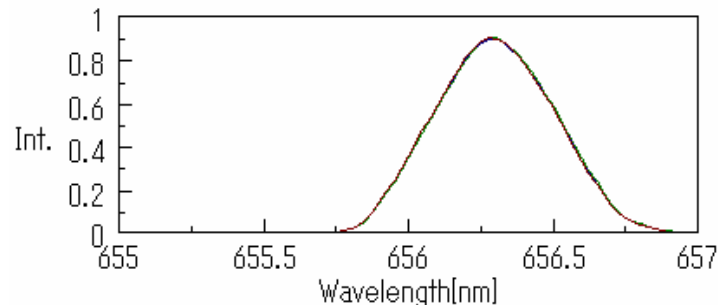

Fig. 4.4 D₂ lamp spectra with an emission line at 656.1 nm
- (3) With the sample chamber empty, measure the spectrum of the D₂ lamp with an emission line at 656.1 nm three times.
- (4) Start [Spectra Analysis] from the [Spectra Manager] window and overlay the three spectra in a View (refer to the "Spectra Analysis Operation Manual"). An example is shown in Fig 4.4.
- (6) Measure the single beam spectrum with the sample chamber empty three times to obtain three D₂ lamp spectra with an emission line at 656.1 nm. A measurement example is shown in Fig 4.4.
- (7) The wavelength repeatability is normal if it is within the following criterion.